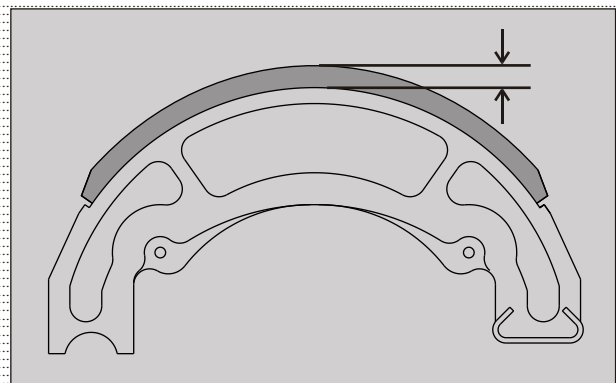

Fig. 2.88
- Measure lining brake shoe thickness as shown. (Fig. 2.88) If the thickness measured is less than the service limit, replace shoe complete brake with a new one as a set.